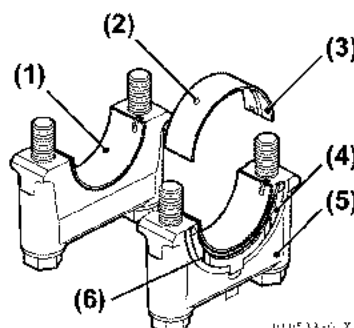

Figure 5-130
5. Coat the lower main bearing with engine oil, and mount it to the main bearing cap (Figure 5-130).